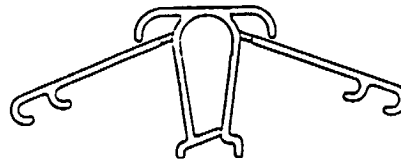

Figure 9
15. Install the new gate strips. (See figures 9, 10, & 11, pg. 9.)